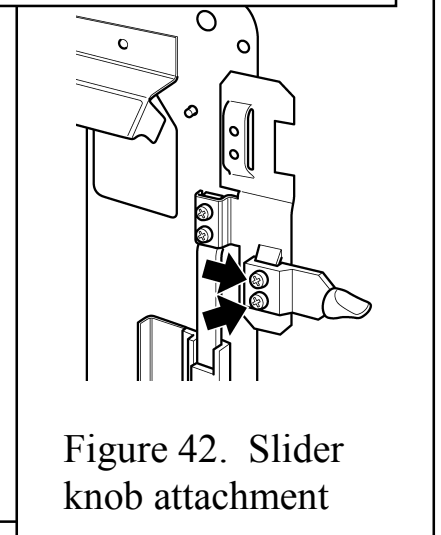

Figure 42. Slider knob attachment
2. Detach the slider knob from the slider bar by removing two screws. See figure 42.